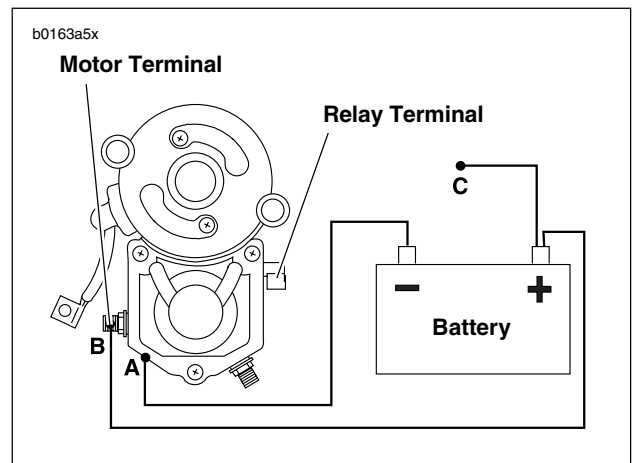

Figure 5-14. Return Test
- See Figure 5-14. With test leads still connected in the manner specified at the end of the previous **SOLENOID HOLD-IN TEST**, **disconnect solenoid relay terminal/positive battery post test lead (C) at either end.**